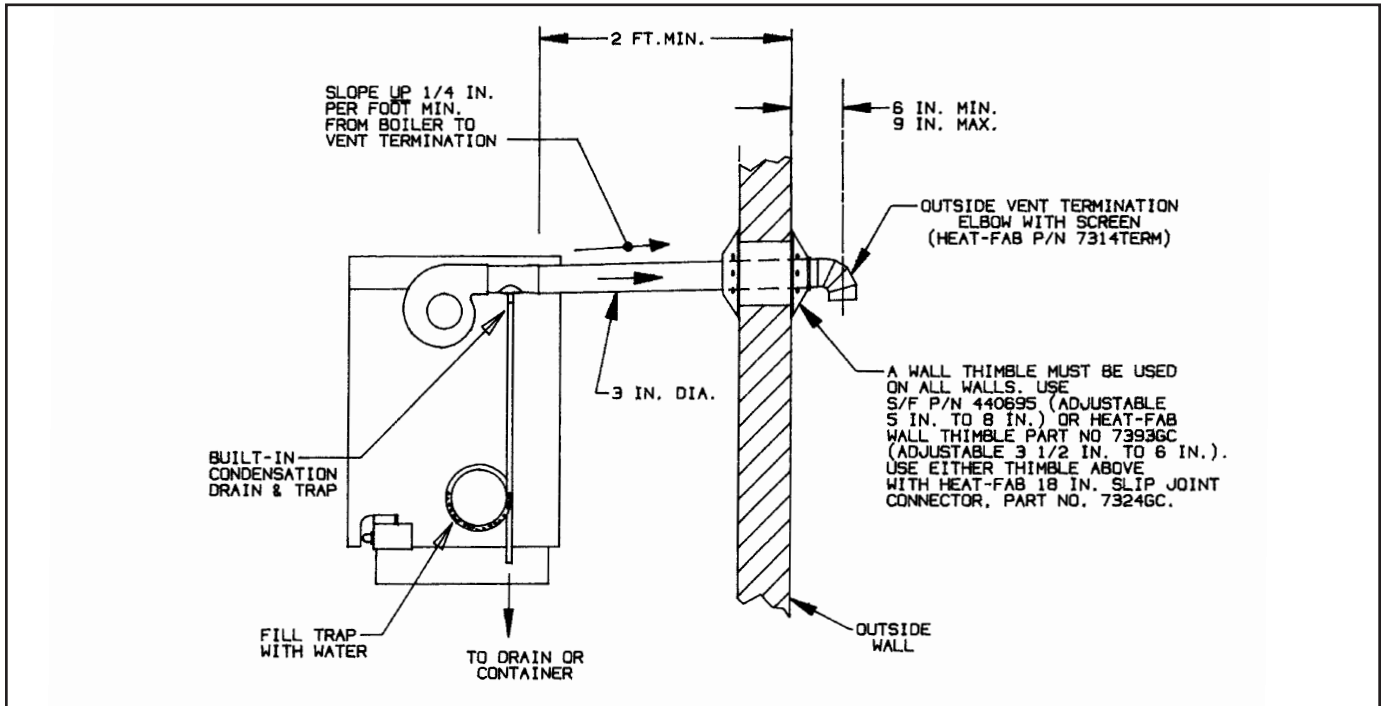

Figure 5.
Figures 5 and 6 show typical horizontal venting. For combustible wall passage of vent piping a U.L. listed thimble must be used. See Figures 5 and 6 for wall thimble Part Numbers and more information.
- F. The vent piping must terminate with a screened elbow or tee. See Figures 5 and 6 for horizontal and 7 and 8 for vertical termination information. A cap termination may be used for vertical venting.